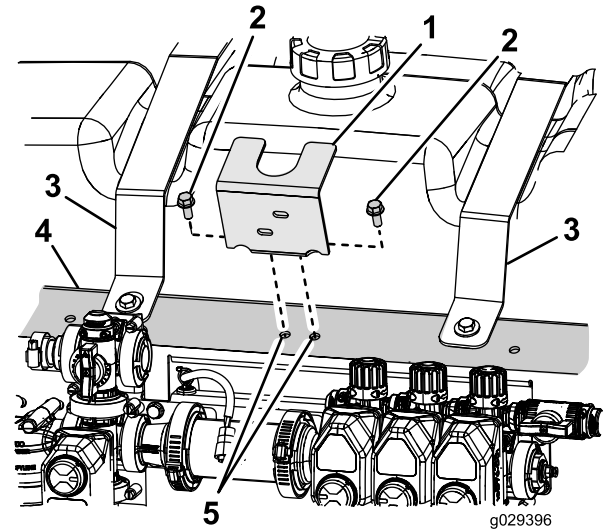

Figure 31
2. If there are not 2 holes in the top of the valve-mounting rail to mount the valve-mounting bracket (Figure 31), do the following steps:
- A. Position the valve-mounting bracket on the top of the valve-mounting rail at the midpoint between the 2 rinse-tank straps (Figure 31).
1. Remove the main supply hose from the tee and the agitation valve (Figure 31).